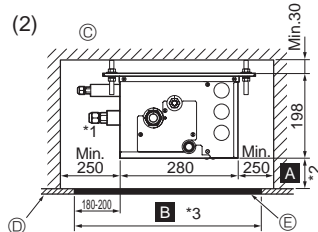
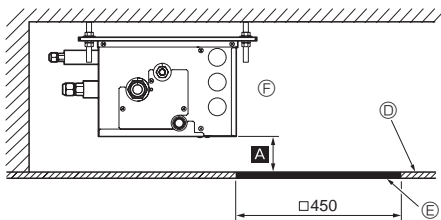

Fig. 4-5
Fig. 4-6
(2) Side View (Fig. 4-5, Fig. 4-6)
In the case of "450", prepare a maintenance hole at a PCB side (as it is shown in Fig. 4-6), and "Min. 300 mm" is needed as distance Ⓐ.